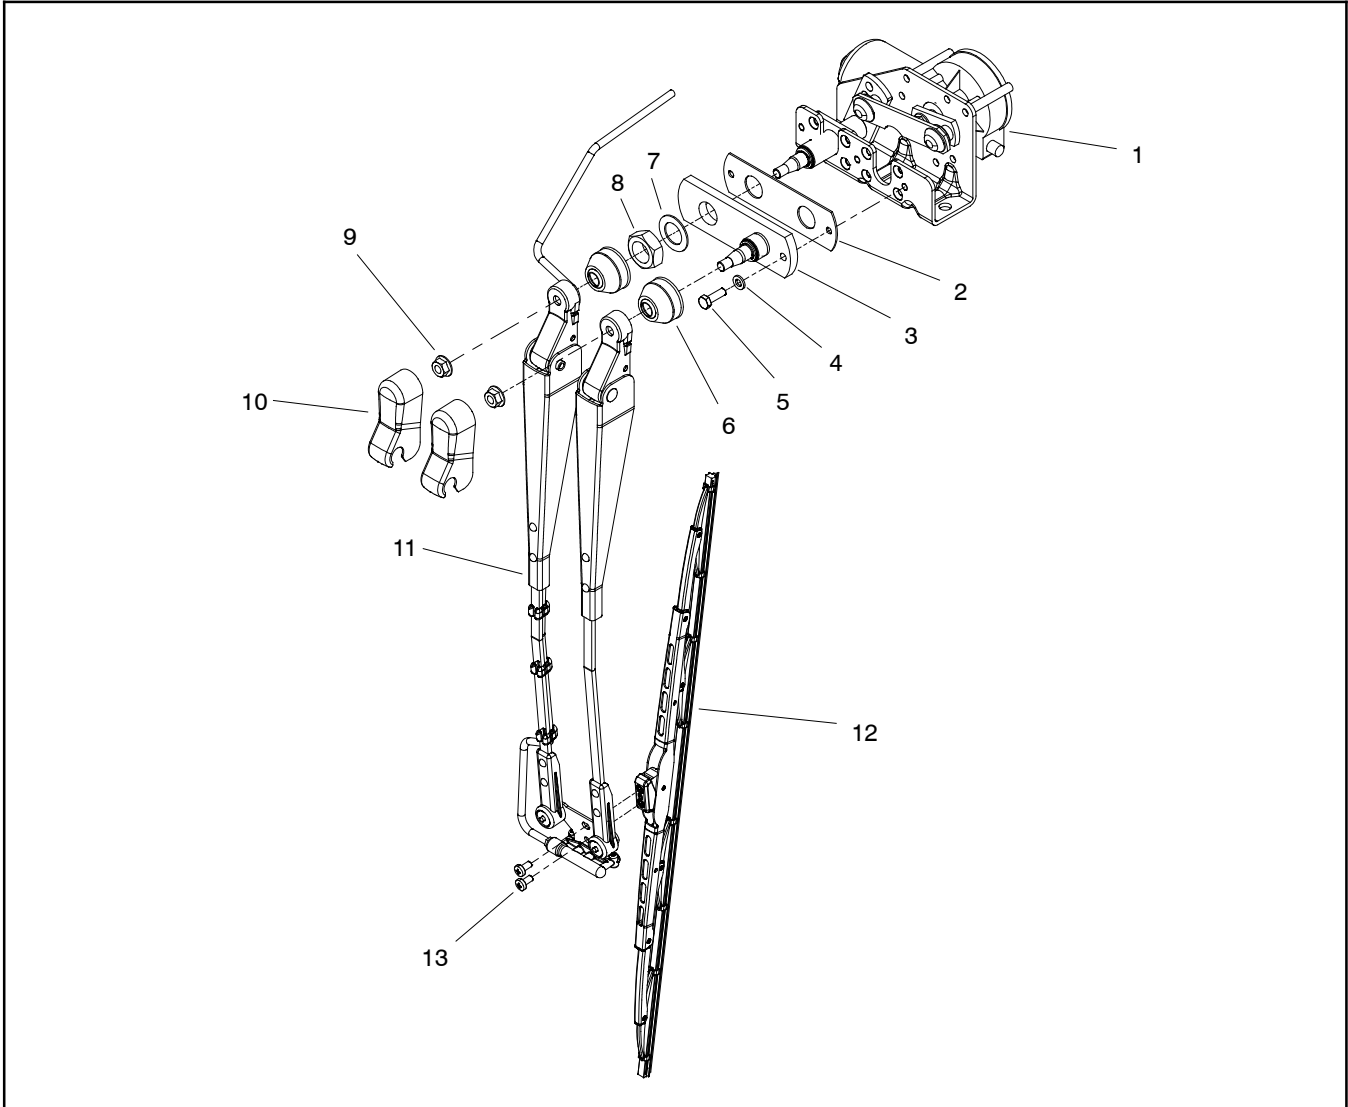

Figure 10
Disassembly (Fig. 10)
3. Remove windshield wiper components as needed using Figure 10 as a guide.
Assembly (Fig. 10)
1. Assemble windshield wiper components using Figure 10 as a guide.